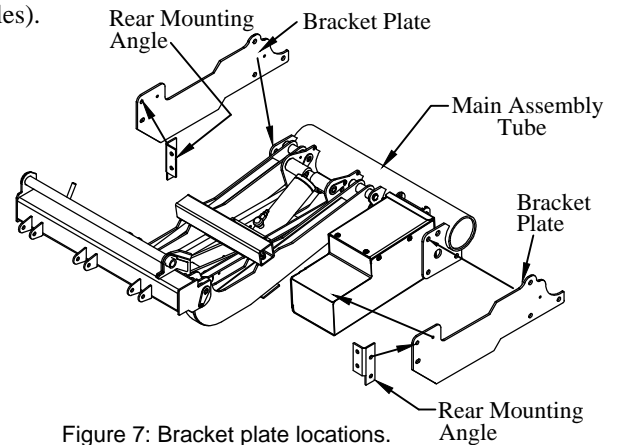

Figure 7: Bracket plate locations.
- 8. Install** the bracket plates on the main assembly using six (6) 5/8" x 1-1/4" bolts, lock washers, and lock nuts. The bolt head and lock washer should be on the outside (Figure 7).
- 9. Install** rear mounting angles with four (4) 1/2" x 1-1/4" bolts, lock washers, and nuts. Position the rear mounting angles in the highest position (lower set of holes).